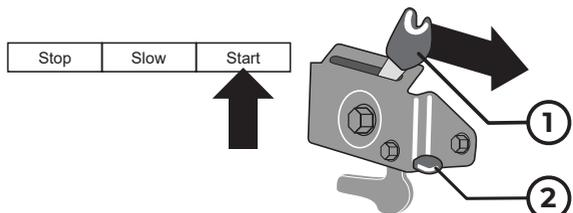

Fig. 6
3. Fuel supply lever (see Fig. 6).
4. Fuel supply lever lock (see Fig. 6)
3. Move the fuel supply regulator to the "Start" position (see Fig. 6)